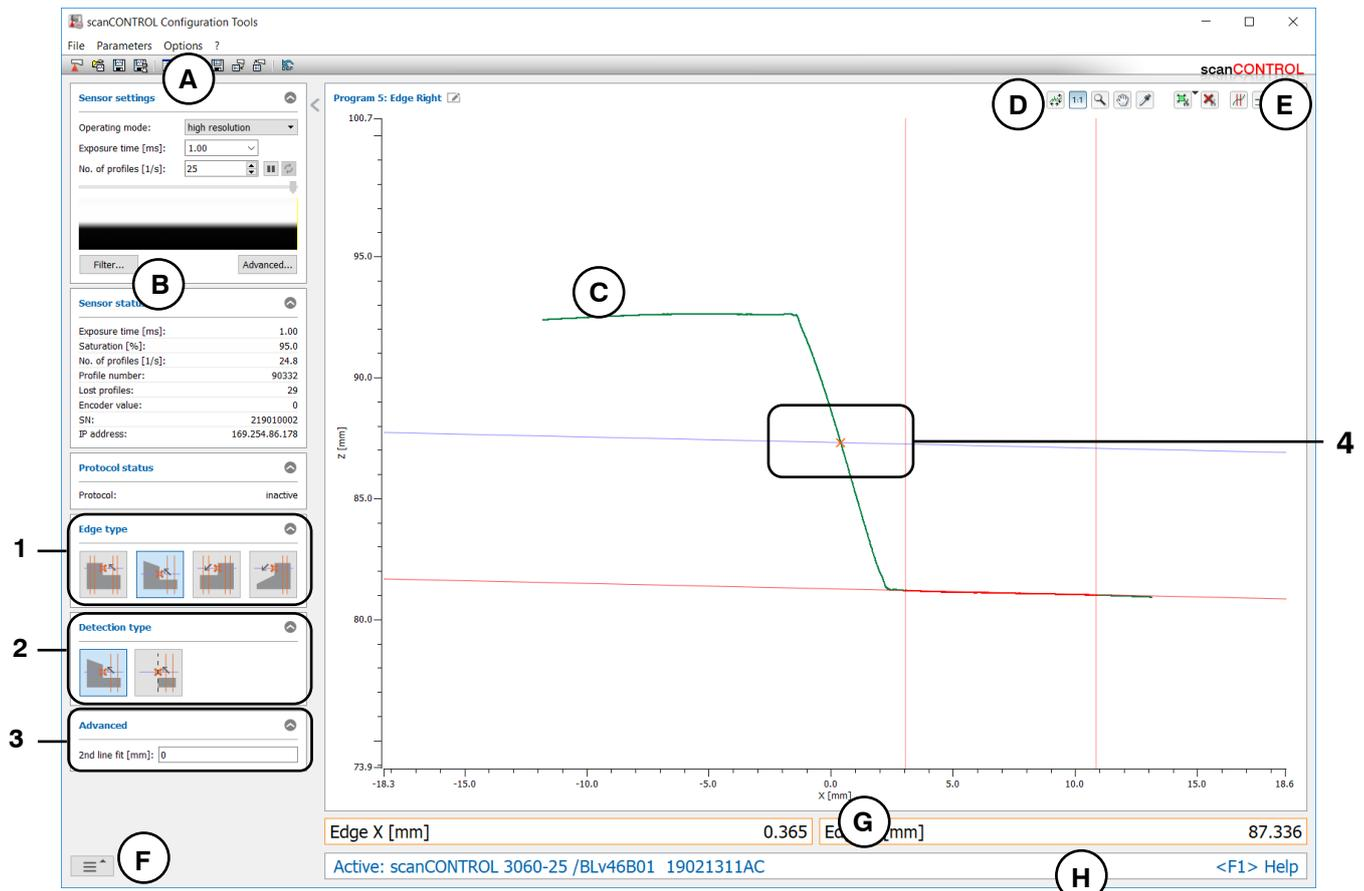

Fig. 4.19: "Edge Right" measuring program
- Define the type of edge (see Fig. 4.19 and Chapter 3.13.1):
- Define the type of detection (see Fig. 4.19 and Chapter 3.13.1):